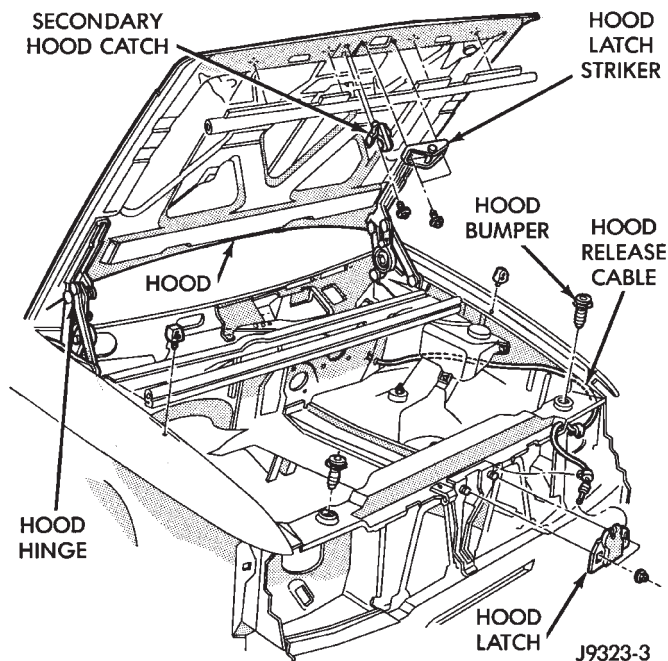

Fig. 12 Hood Hinges and Release Cable
(1) Position hood on shims and hinges. Fingertighten hinge nuts (Fig. 12).
(4) Align latch striker (Fig. 12) so that striker enters the latch squarely and without binding.
- (1) Remove nuts that attach latch to radiator crossmember support (Fig. 12).
- (2) Disconnect latch from the hood release cable. Remove latch.
- (1) Connect latch to latch release cable. Position it on radiator crossmember support (Fig. 12).
- (2) Install nuts.
- (3) Tighten nuts to 11 N•m (8 ft-lbs) torque.
- (4) Test operation of latch release cable and latch.
- (1) Remove 2 striker retaining bolts.
- (2) Remove striker from hood (Fig. 12).
- (1) Position striker on hood. Install bolts (Fig. 12).
- (2) Tighten bolts to 11 N•m (8 ft-lbs) torque.
- (3) Test striker/hood alignment by opening and closing hood several times. Adjust striker, if necessary.
- (2) Disconnect cable from retaining clips (Fig. 12).
- (3) Remove left cowl side (kick) trim panel.
- (4) Install left cowl side trim panel.
- (5) Route cable into retaining clips.
- (6) Attach cable to hood latch (Fig. 12).
- (7) Test release cable for proper operation.
- (1) Remove latch striker screw from hood (Fig. 12).
- (1) Position striker on hood. Install screw (Fig. 12).
- (2) Test safety latch operation.